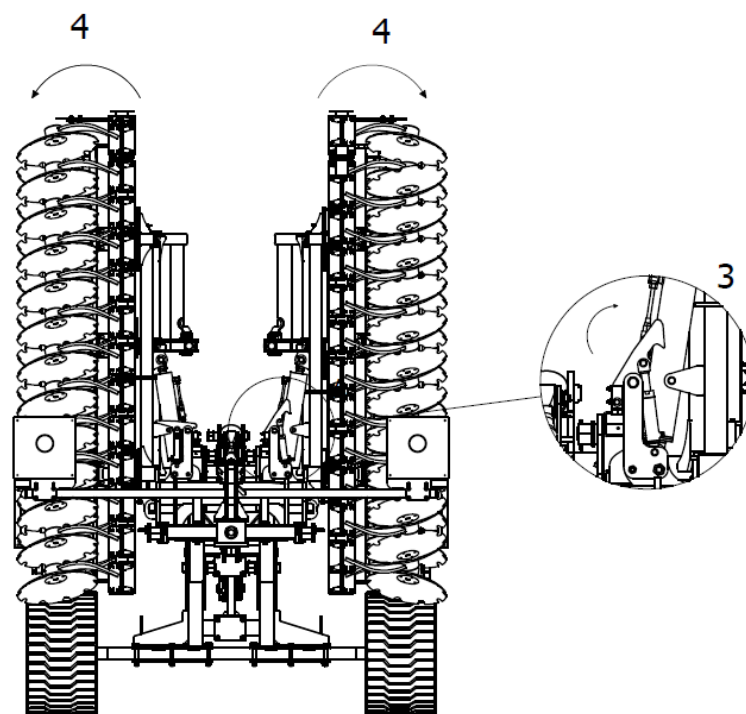

Fig. 7 Implement opening sequence: 3- release the hook of the hydraulic side extension lock mechanism, 4- open the implement side extensions.
3. Then, after making sure that the hook of the hydraulic side extension lock mechanism allows the machine side extensions to be unlocked, proceed to open them fully (Fig. 7).